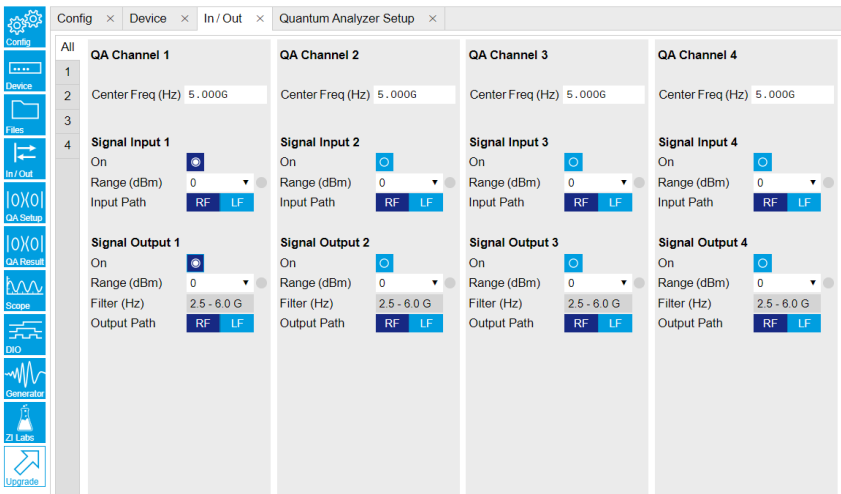

Figure 4.14: Configurations on In/Out Tab.
- Configure these parameters on the Input and Output Tab as in Figure 4.14 and in Table 4.6.